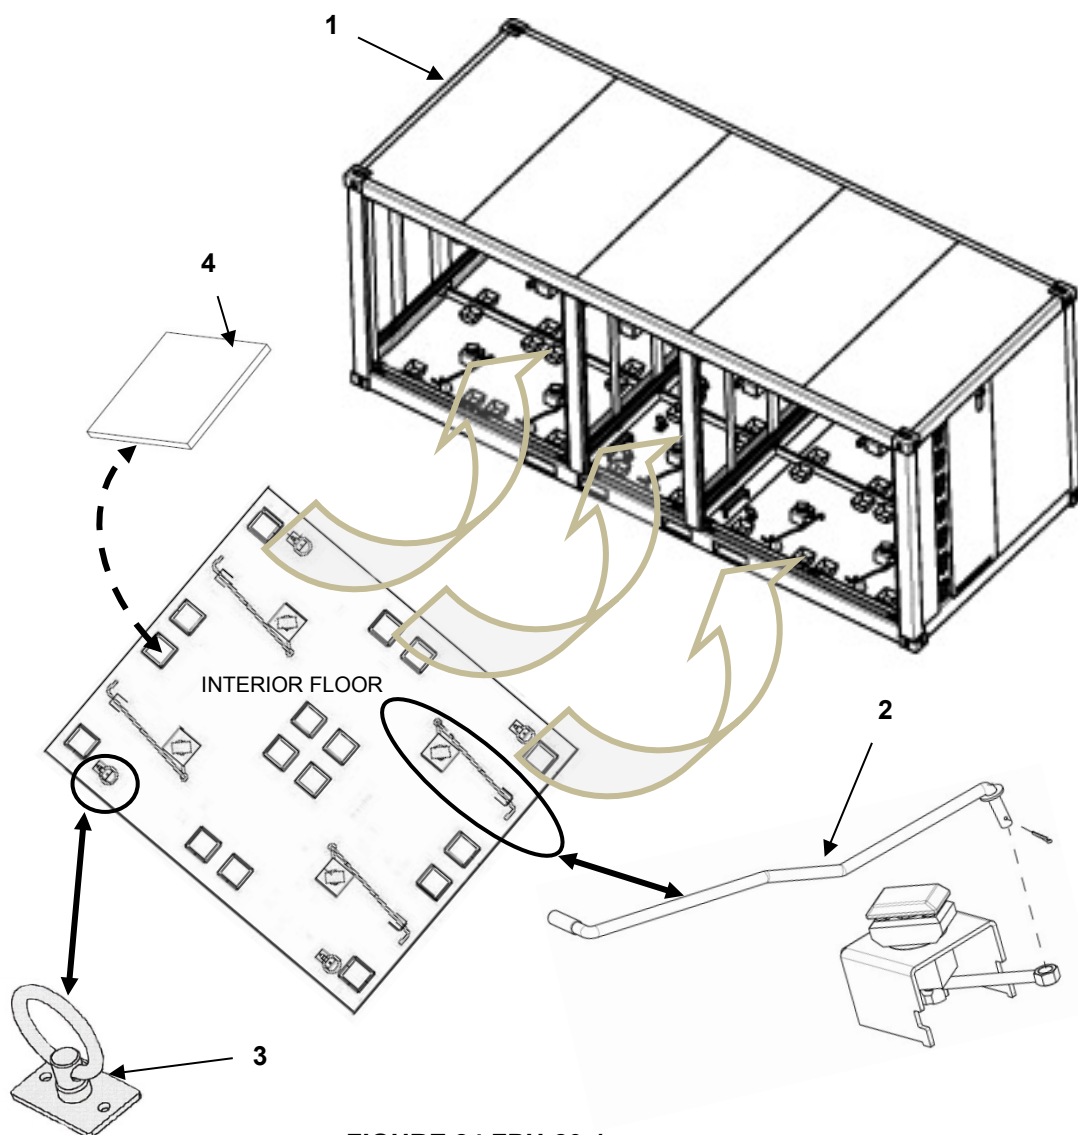

FIGURE 24 FPU-20-1
**FIGURES 24 through 33**
GROUP 02 FIGURE 24 FPU-20-1 CONTAINER (INTERIOR FLOORS)
END OF FIGURE 24